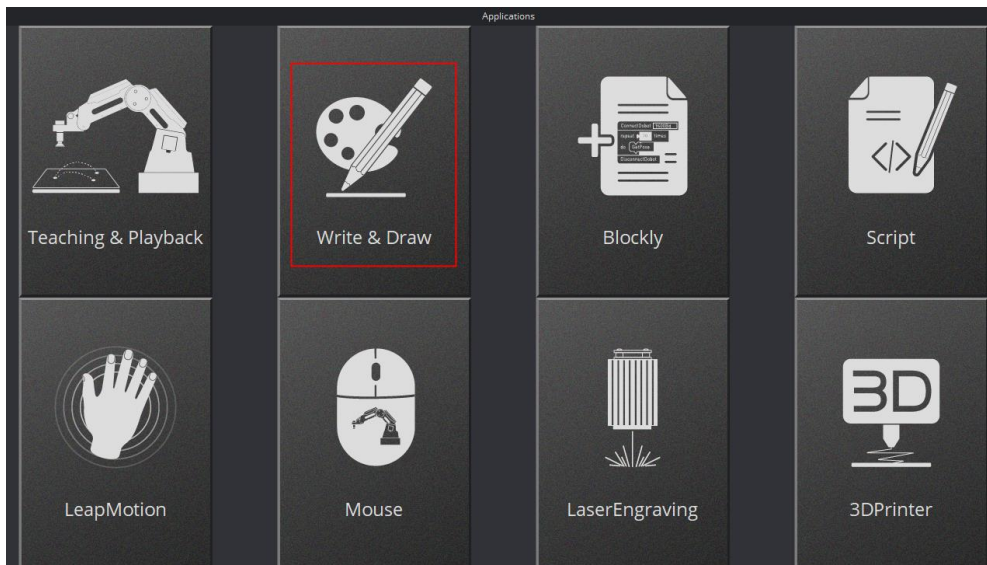

Figure 5.37 Click Write & Draw
Step 1 Click **Write & Draw** on the **DobotStudio** page, as shown in Figure 5.37.